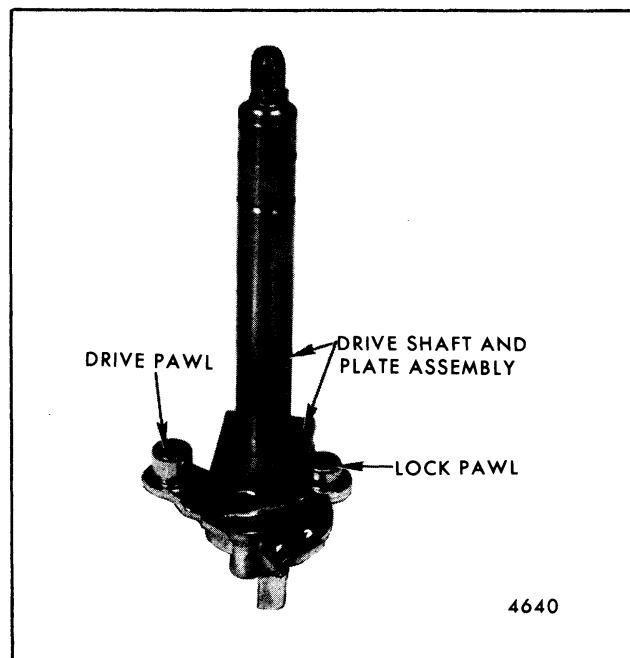

Fig. 2-47-Lock Pawl
2. Assemble lock pawl over drive pawl as shown in Figure 2-47.